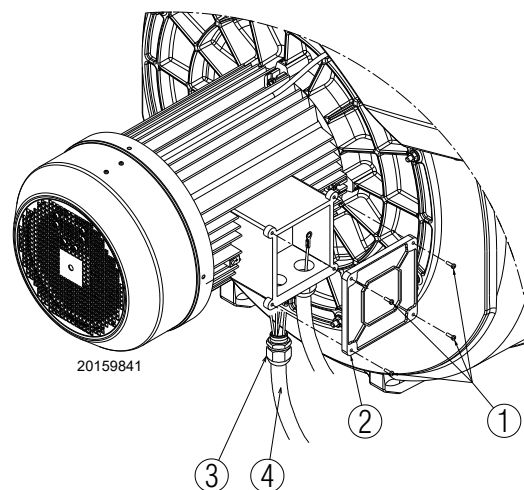

Fig. 31
- to access the motor casing, loosen the four screws 1)(Fig. 31) and remove the cover 2).
- Make a final visual check, then close the motor casing by tightening the 4 screws 1)(Fig. 31).